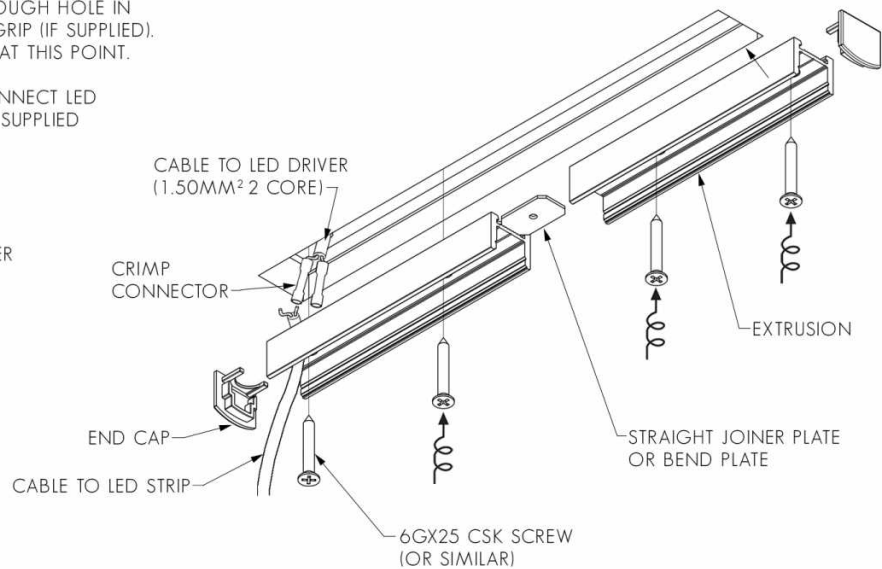

FIG. 1 - FASTEN CABLE USING CORD GRIP
1. FEED LED STRIP TAILS (OR CABLE) THROUGH HOLE IN EXTRUSION AND CLAMP USING CORD GRIP (IF SUPPLIED). (SEE FIG. 1). DO NOT INSTALL LED STRIP AT THIS POINT.